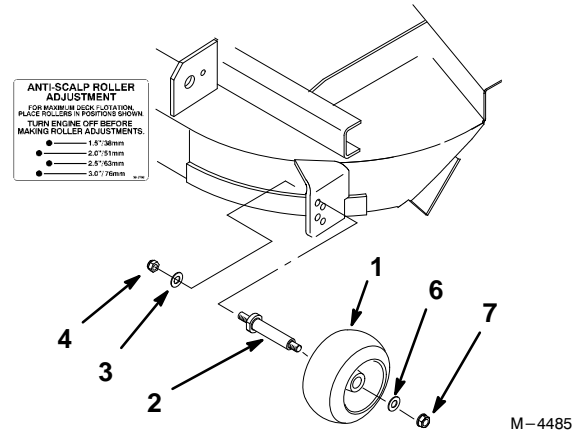

Figure 7
1. Install stud into gage wheel. Install washer and nut and tighten (Fig. 7).
2. Select hole so gage wheel is positioned to the nearest corresponding height-of-cut desired (Fig. 7).
3. Install flange nut and spring disk while holding stud with wrench (Fig. 7).
2. Remove flange nut and spring disk while holding stud with wrench (Fig. 7).
Note: Do not remove the wheel nut and washer (Fig. 7).
4. Reinstall the flange nut and spring disk (Fig. 7).